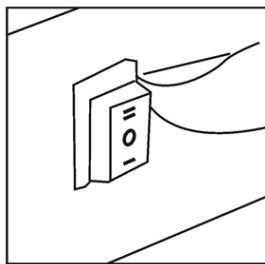

Figure. 3
1. Turn the power switch to position "I". The motor will start, and the digital display will show the room temperature (see Figure 3).